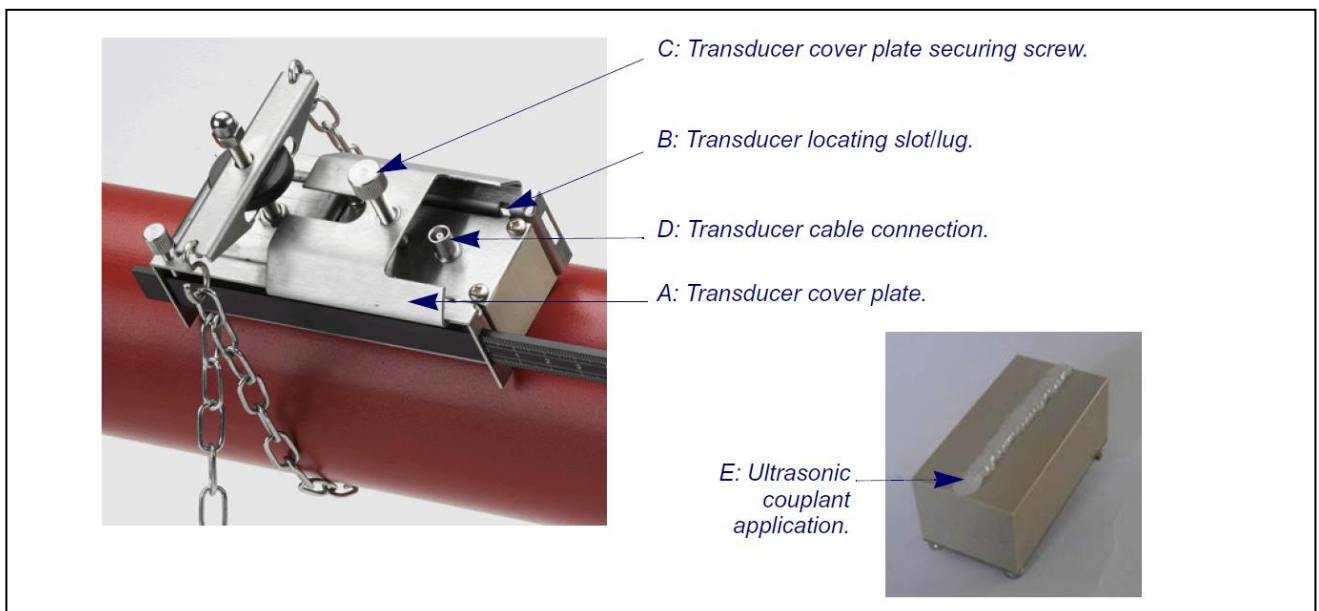

Figure 4.3 Fitting the transducers
1. Slide the transducer cover plate (A) fully towards the outside of the guide assembly to allow sufficient access to fit the transducer.
3. Apply a 3mm bead of ultrasonic couplant along the centre length of the transducer (E) (see Figure 4.3).
4. Fit the transducer into the guide block – ensuring the lugs on the sides of the transducer are correctly located into the slots on the sides of the guide block (B).
5. Slide the transducer cover plate (A) over the top of the transducer and tighten the thumbscrew (C) finger tight to secure the transducer in place. When securing the cover plate take care to leave sufficient room around the transducer connector (D) to connect the cable.